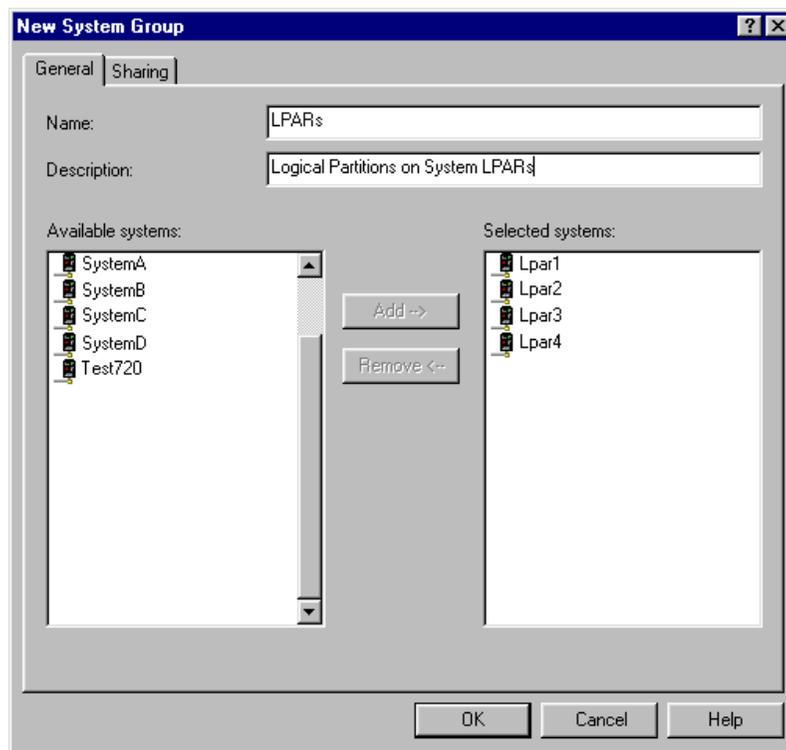

Figure 51. Creating New System Group
4. Select the logical partitions from the endpoint systems listed in the Available systems list. Click the **Add** button to add the logical partitions to the Selected systems list (see Figure 51).